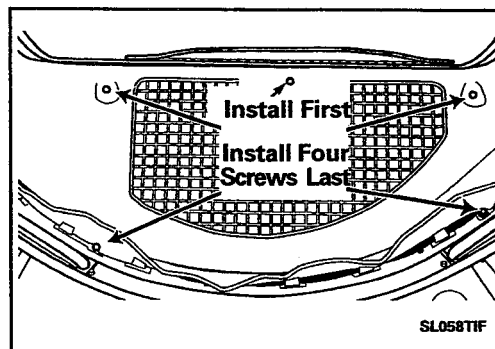

Figure 2-75
- When reattaching the outlet duct assembly to the tumbler front, install the center screw (found above the grid area) first, followed by the four outside screws in any order (*Figure 2-75*).